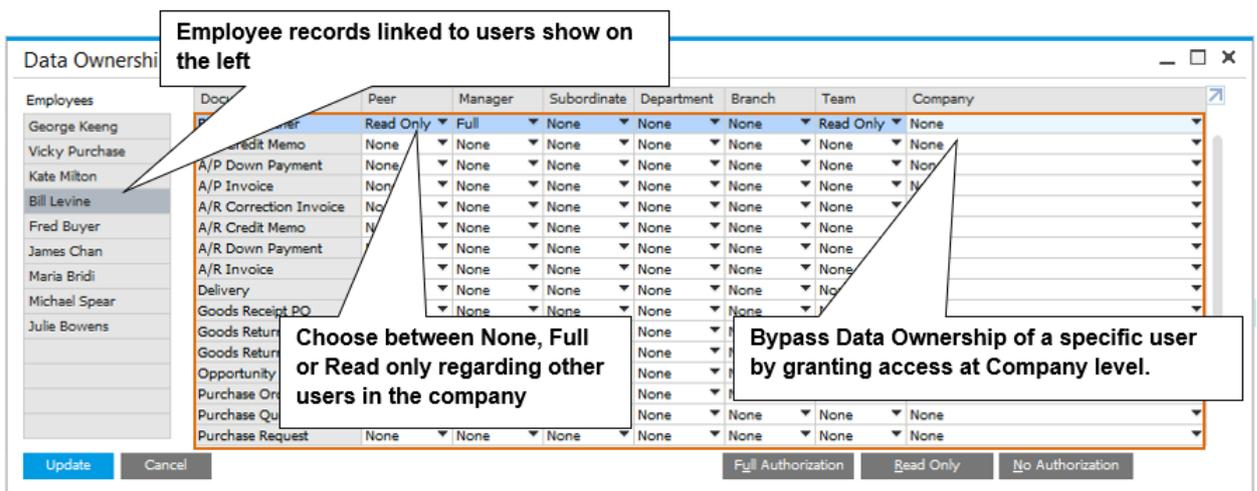

Figure 10-4: Define Data Ownership Authorizations
7. Finally, you need to define the relationship between employees, go to **Administration → System Initialization → Authorizations → Data Ownership Authorizations**. See Figure 10-4 for setting up data ownership authorizations.